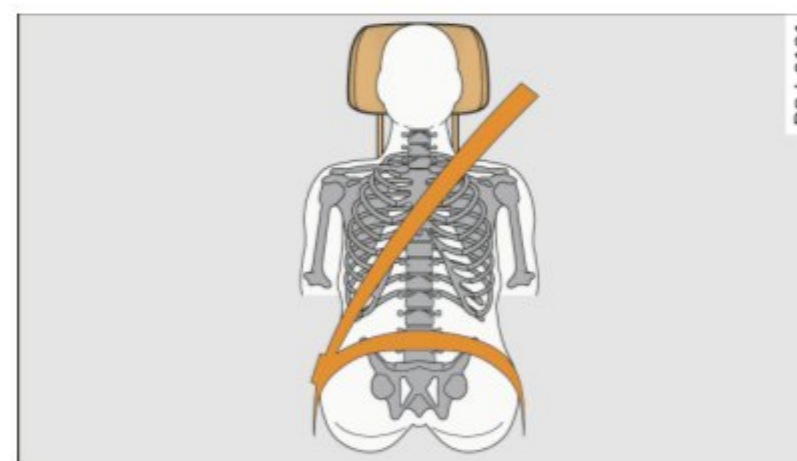

Fig. 173 Head restraint: viewed from the front
- Adjust the head restraints so the upper edge is as even as possible with the top of your head. If that is not possible, try to adjust the head restraint so that it is as close to this position as possible ⇒ *page 172, fig. 173.*